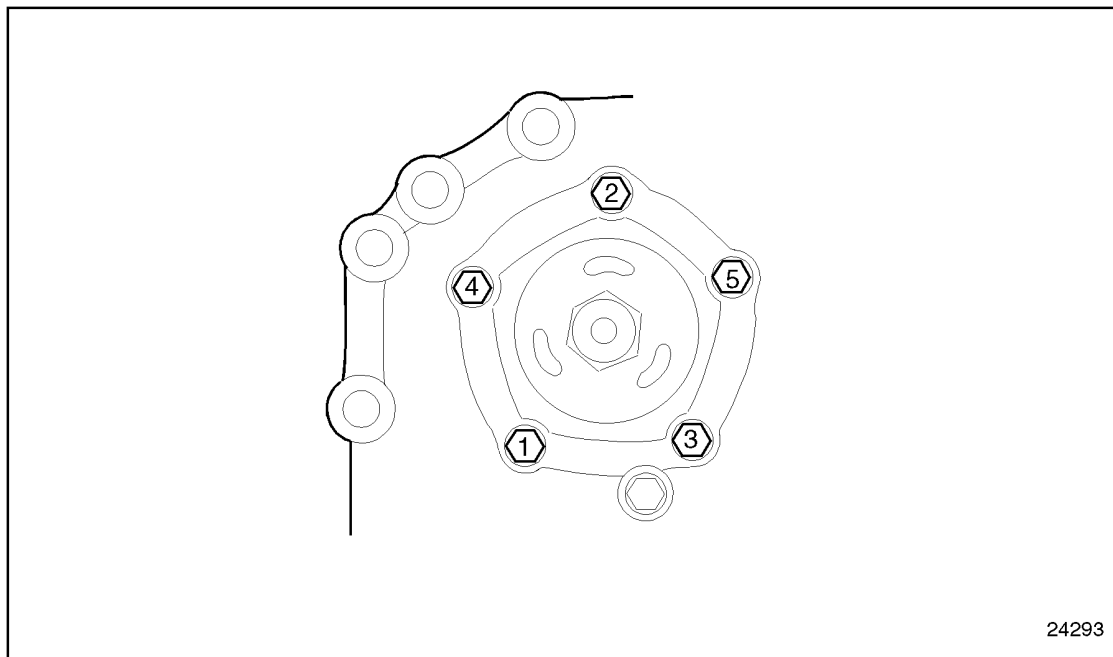

Figure 1-164 Accessory Drive Assembly Bolt Torque Sequence
6. Install the accessory drive assembly to the gear case. Refer to Section 1.29.5. Torque the bolts to 30-38 N·m (22-28 lb·ft), using the sequence. See Figure 1-164.